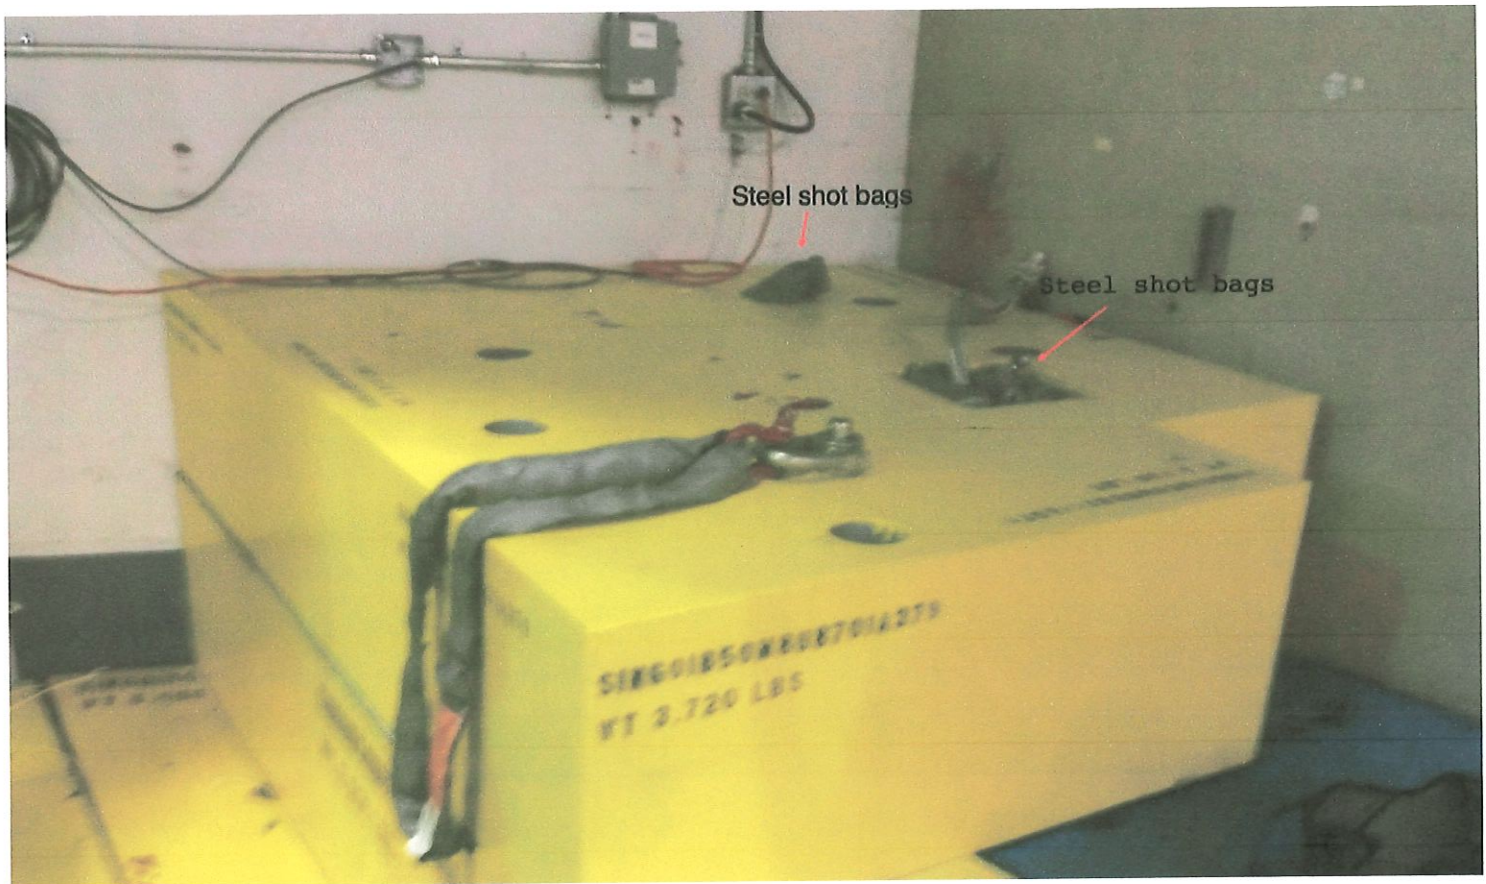

Figure 1.
- 5.2** Remove shot bags and poly shielding from top cavities. Make sure to have RCT survey this area for any radiological hazards. (See figure 1.)